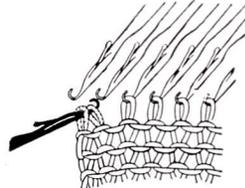

Fig. 65
- b. Place the end stitch only behind the latch and pull the latch tool to make a single stitch. (See Fig. 65)